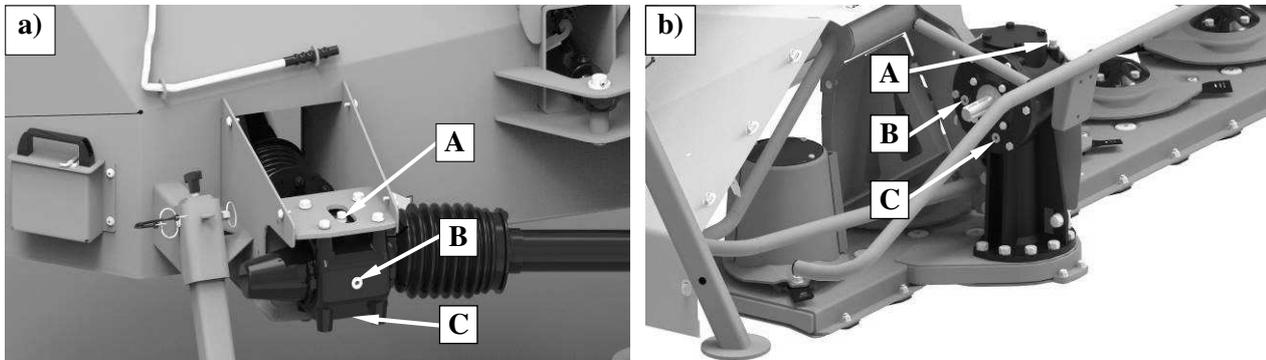

Fig. 30. Control and oil changing points of the gear box
- ❑ Open fuel cap **A** (Fig. 30),